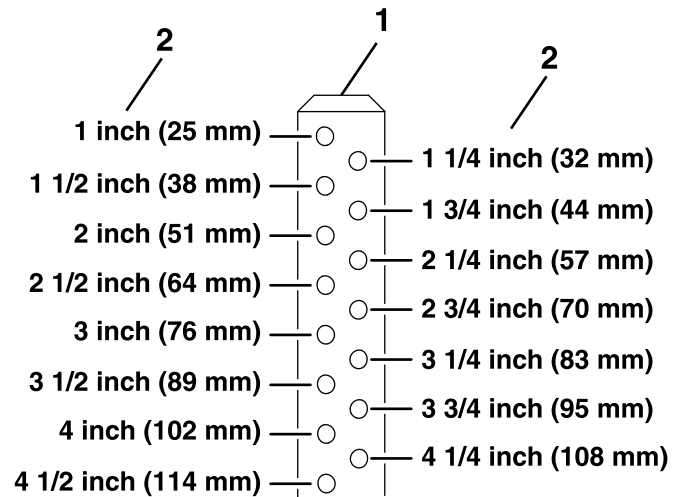

Figure 19
6. On lifted deck side, install hairpin clips in the holes for the desired cutting height (see Figure 19).
- A. The front and rear hairpins are in the same holes with the proper spacers under the hair pins (see Figure 19).